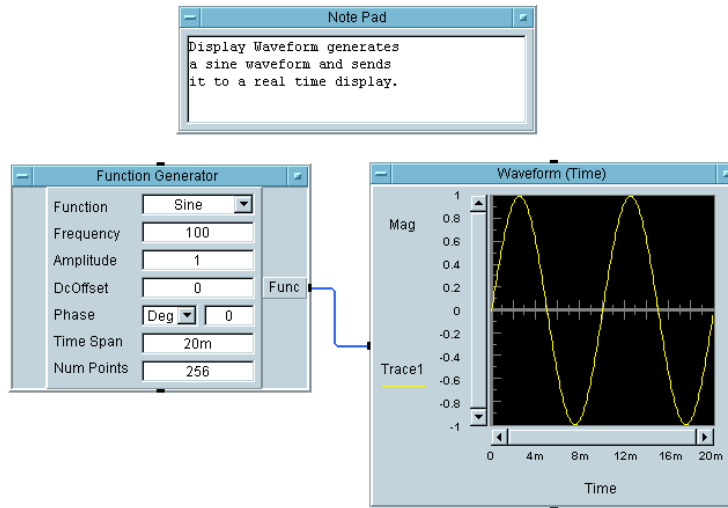

Figure 1-27. Changing the Function Field to Sine Wave
6. Continuing with the same example, click `Cosine` (or the arrow) in the `Function` field. A drop-down list of selections appears. Click `Sine` to select the `Sine` function as shown in Figure 1-27, noticing that the `Function` field has changed from `Cosine` to `Sine`.